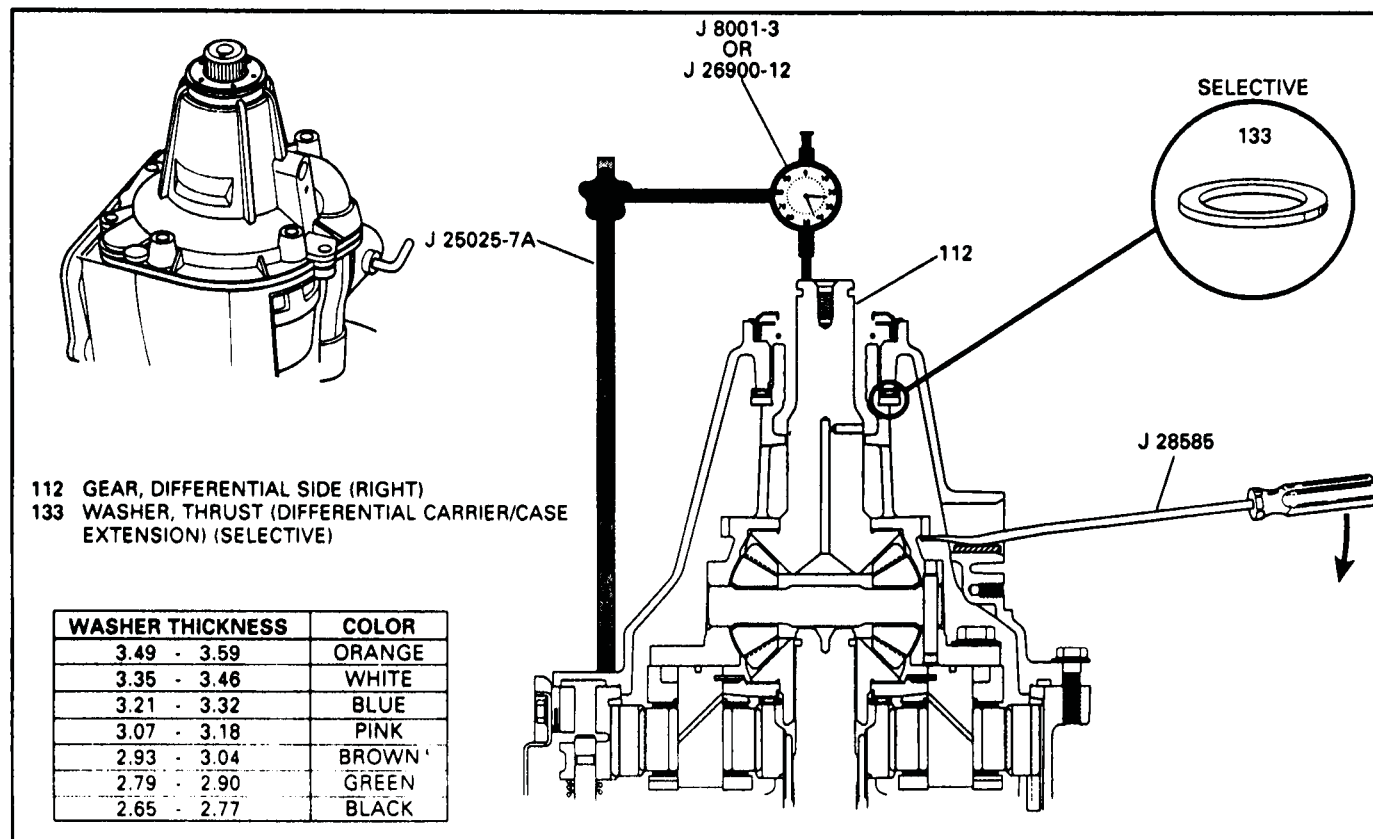

Figure 123
1. Install dial indicator J-26900-12 onto transaxle, as shown in Figure 123.
2. Position dial indicator with stem on output shaft as shown in Figure 123.
4. Insert J-28585 through the output speed sensor bore and lift speed sensor rotor for measurement (See Figure 123).
NOTE: PROTECT SPEED SENSOR BORE WITH A PIECE OF WOOD OR USED FILLER TUBE SEAL, TO PREVENT DAMAGE (FIGURE 123)
7. Use the chart in Figure 123 for the proper selective thrust washer.
9. Torque stud (127) and bolts (128) to 37-40 ft.lbs.
10. Torque bolts (129) to 15-20 ft.lbs.